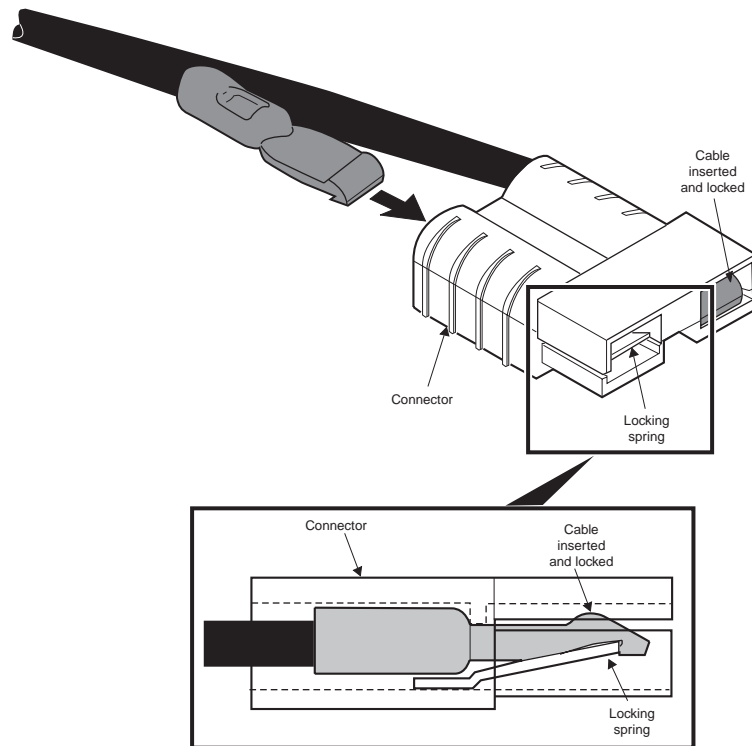

Figure 19. Connector Locking Spring
- 5 Using a small tool (awl or small screwdriver) to depress the locking spring at each connector as shown in Figure 19 on page 26, pull the cable from the connector.